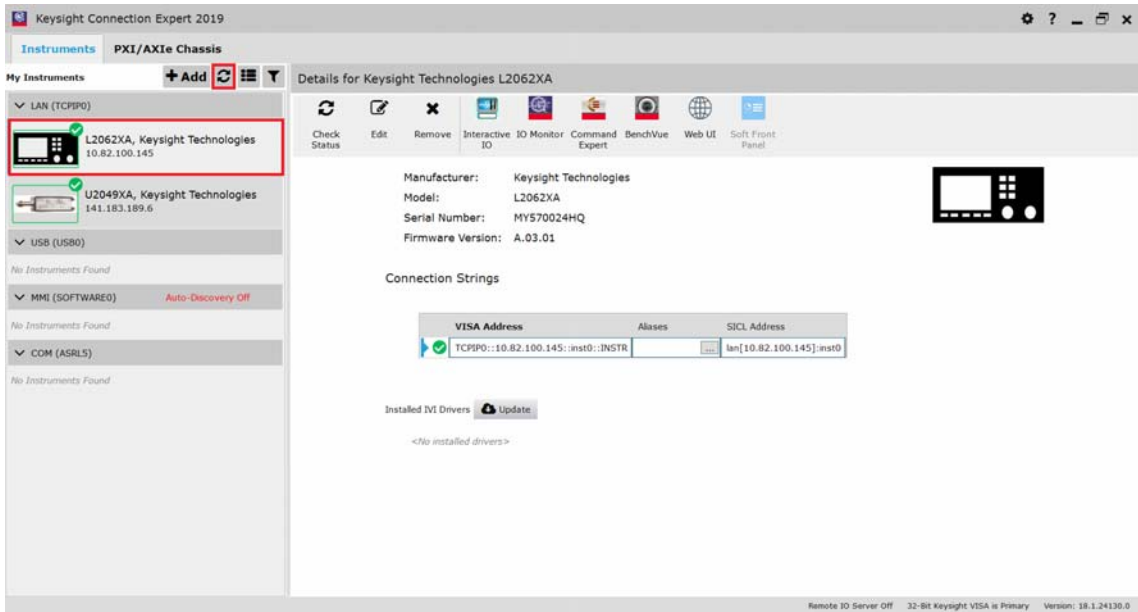

Figure 1-9 Auto-locate a LAN instrument in Keysight Connection Expert via Dynamic IP
- 7** Alternatively, click **Start a Scan for connected instruments** to auto-locate the sensor as shown in **Figure 1-9**.